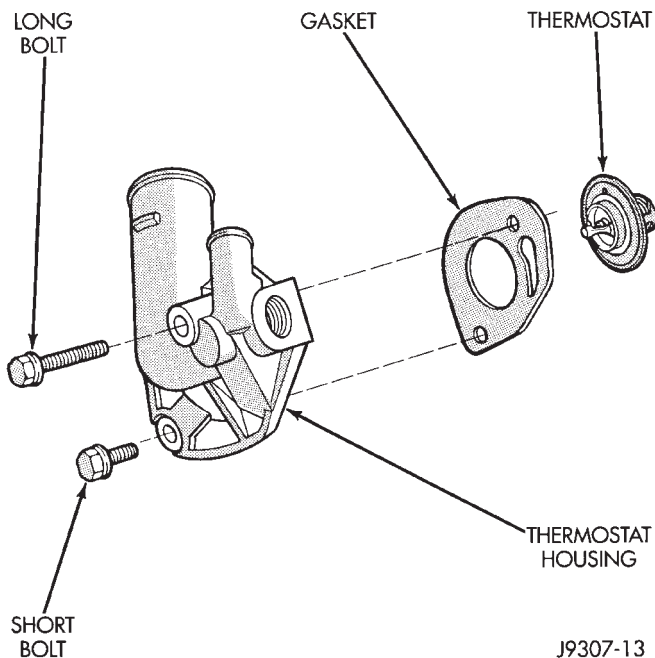

Fig. 36 Thermostat Removal/Installation—4.0L Engine
(2) Remove radiator upper hose and heater hose at thermostat housing.
(3) Disconnect wiring connector at engine coolant temperature sensor.
(4) Remove thermostat housing mounting bolts, thermostat housing, gasket and thermostat (Fig. 36). Discard old gasket.
(5) Clean the gasket mating surfaces.